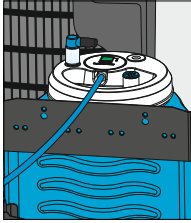
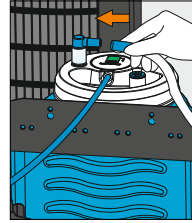

Figure 14
Figure 16
- a. Connect the bottle tube (within cooler) to the top of the POU system (Figure 14 to Figure 16).